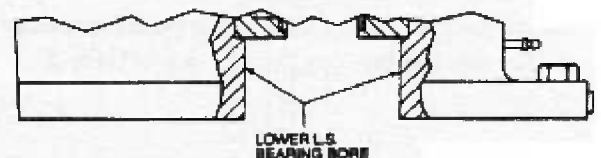

Figure 9 — Lower L.S. bearing bore
- c. Refer to Fig. 9. Make sure the lower L.S. bearing and the bearing bore in the lower housing are clean and free of burrs or dirt. Coat these surfaces with light oil.